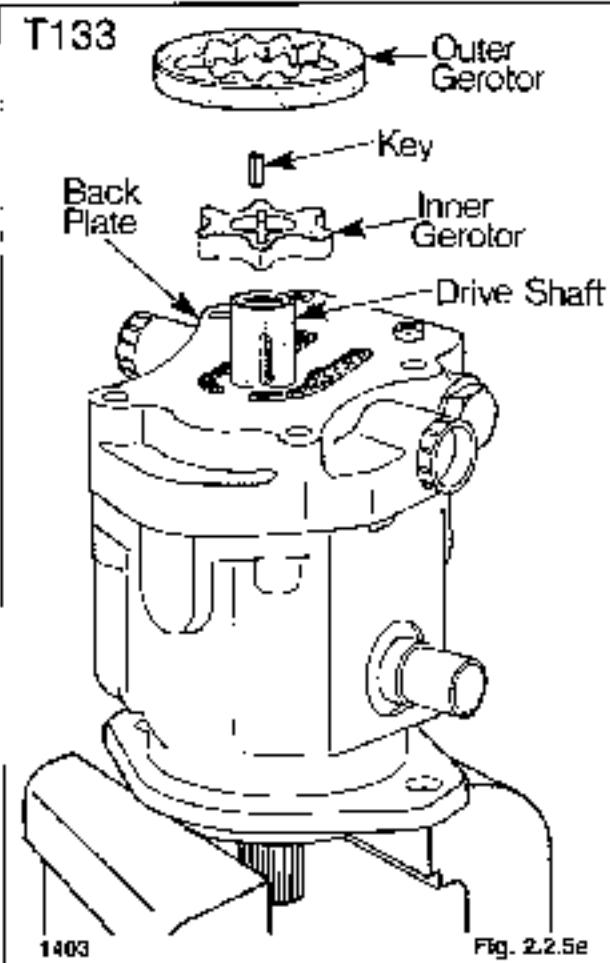

Fig. 2.2.5e
4. Remove the charge pump kit from the back plate assembly (fig. 2.2.5d, fig. 2.2.5e).